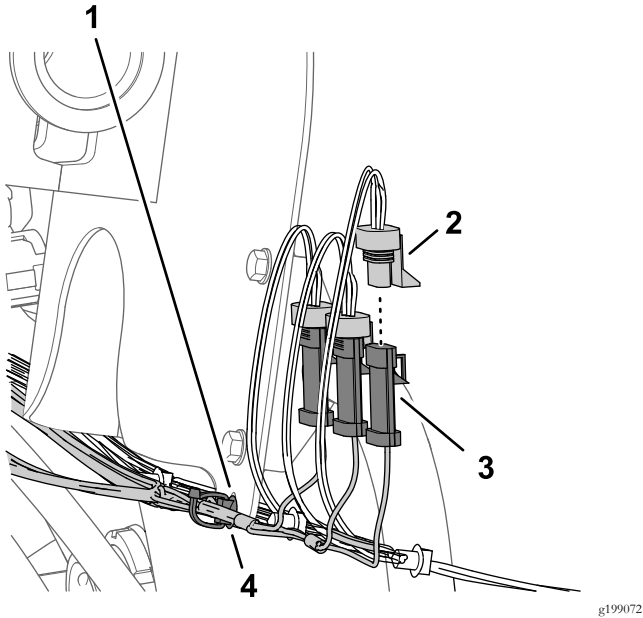

Figure 84
1. Connect the 3-pin connector of the 89 cm (35 inch) wire-harness branch labeled LEFT SPRAY to the 3-socket connector of the machine wire harness labeled LEFT SPRAY VALVE (Figure 84).
2. Connect the 3-pin connector kit wire harness labeled CENTER SPRAY to the 3-socket connector of the machine wire harness labeled CENTER SPRAY VALVE (Figure 84).
3. Connect the 3-pin connector of the kit wire harness labeled RIGHT SPRAY to the 3-socket connector of the machine wire harness labeled RIGHT SPRAY VALVE (Figure 84).
4. Insert the push-in fastener of the kit wire harness into the hole in the flange of the flow-meter bracket (Figure 84).